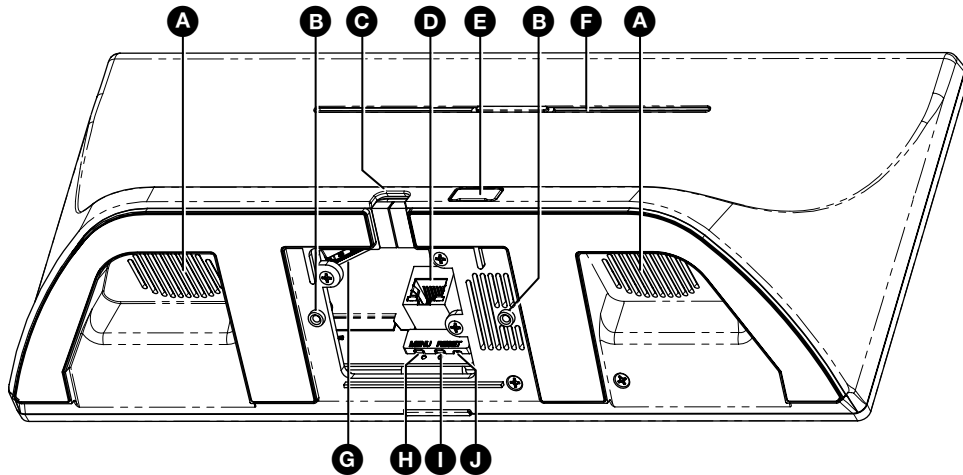

Figure 3. TLP Pro 1230WTG Rear Panel
- Connect the PoE injector to the LAN/PoE input (see figure 3, F, on page 7).
Figure 3 shows the TLP Pro 1230WTG rear panel and base.
- If the touchpanel is standing on a flat surface, the cables can be routed via the cable guide (see figure 3, **C**, above).